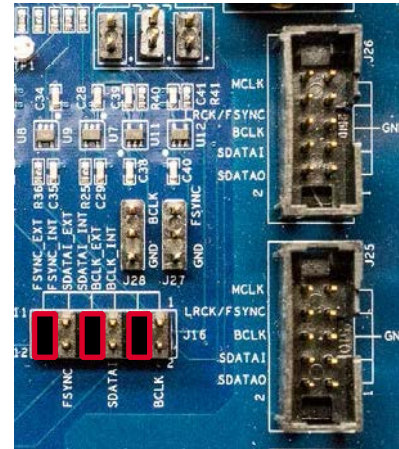
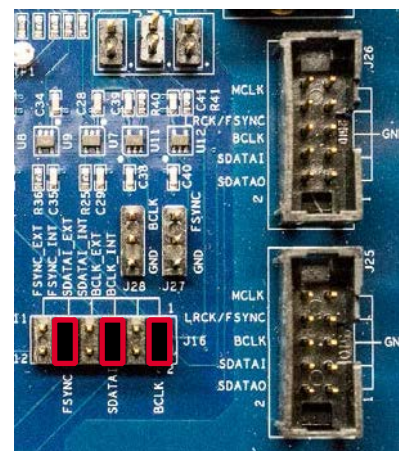

Figure 4. Jumper Configuration for Clock and Data Input from J25 and J26
Figure 5. Jumper Configuration for Clock and Data Input from the SPDIF Receiver
The two connectors are wired together in parallel so that they can be used interchangeably (see Figure 4).
The EVAL-SSM4567Z board also supports I²S input from an optical fiber port using the SPDIF format. The jumpers on J16 select the digital input from either the internal SPDIF interface or the external I²S signals from J25/J26 (see Figure 5).
3. Install jumpers on J16 to select the digital audio input to the SSM4567 from either an external source or the SPDIF input. The SPDIF input signals are labeled as INT (internal). See Figure 4 or Figure 5 for details.